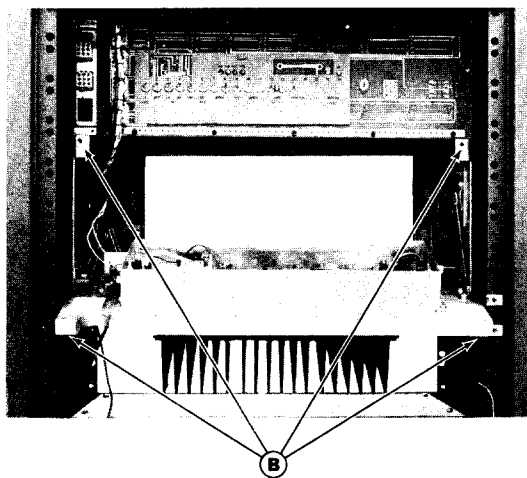

Figure 5 - Access to Power Amplifier
- Remove the top two screws (B) on the Intermittent or Continuous Duty Power Amplifier. Refer to Figure 5.